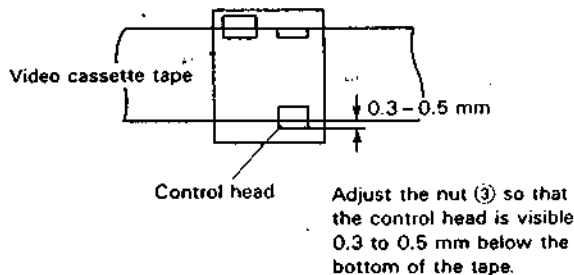

Figure 1-19.
•Replacement (See Figs. 1-19 and 1-20.)
1. Loosen the tilt adjusting screw ⑥ by using Phillips screwdriver.
2. Remove the azimuth adjusting screw ⑤ with a Phillips screwdriver.
3. Remove the A/C head screw ④ with a Phillips screwdriver, paying attention to the spring ⑦ between the A/C head screw ④ and A/C head pedestal.
7. Play an alignment tape and roughly adjust the height of the A/C head, visually, by turning the A/C head adjusting hexagon nut ③ with the box driver (JiGDRIVER110-7) until the tape comes to the position shown below. (See Fig. 1-19.)